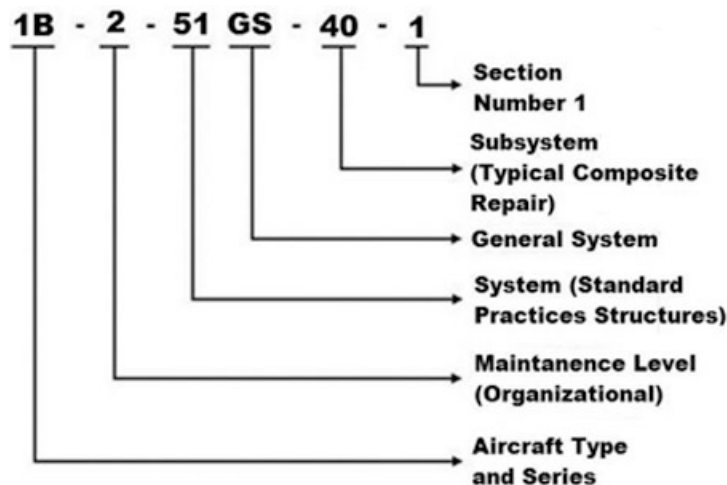

Figure 1-11. MIDAS TO number.
The Maintenance Integrated Data Access System (MIDAS) TO number is a six-digit numbering system expressed by three elements of two digits each. Refer to figure 1-11 to see what each element stands for. Consider this example 51-40-00. The first two digits represent the major system, in the case the Standard Practices Structures TO. The third digit (4) indicates the typical composite repair section, which is a subsystem of the structures. The fourth digit (0) indicates a sub-subsystem. The last two digits (00) represent the function number that is tied to the JG manuals and are used for operational checks or repair of the aircraft system. The MIDAS number appears on the lower outer corner of every page of the pertinent manuals. This provides a ready reference index number. For instance, using MIDAS number 51-40-00, you would refer to JG 1B-2A-2-51GS-40-1 to work on the fuel indicating subsystem with the fuel system.